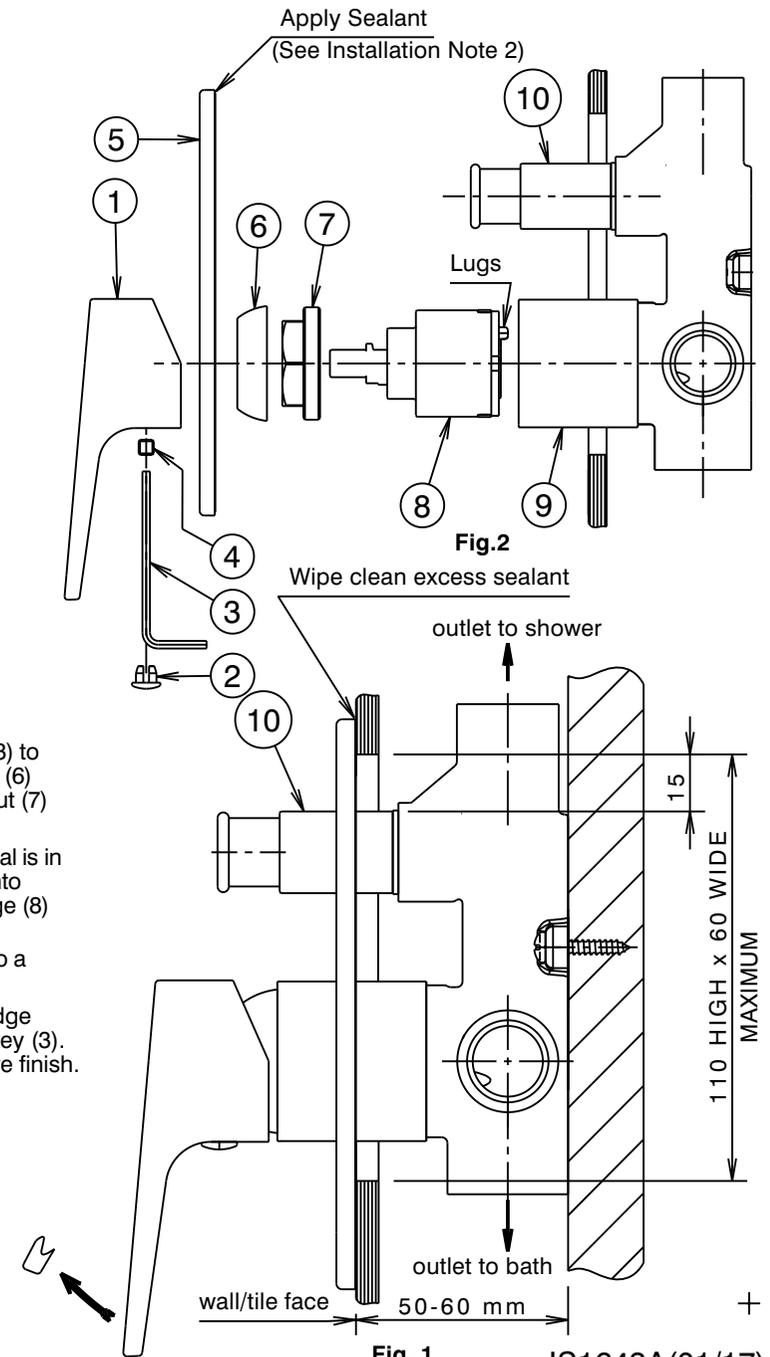

Fig. 1
Installation (Fig. 1 & 2)
- * Bottom face of sleeve (9) must be horizontal to ensure that wall cover plate (5) aligns with tile joints.
- 2) **Trim kit:** Apply a suitable clear sealant to the back edge of the cover plate (5), leaving an unsealed section at the bottom for drainage. Slide cover plate (5) evenly onto diverter sleeve (10) and mixer body (9) and push the cover plate (5) firmly against the wall/tile face. Wipe/clean excess sealant from the chrome surfaces & the wall/tile face (See Fig. 1).
- 3) Fit handle (1) taking care that it is pushed fully onto cartridge stem, then tighten grub screw (4) using the 2.5mm allen key (3). Fit plug (2), taking care not to damage the decorative finish.